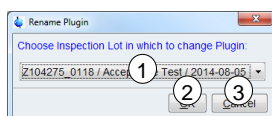
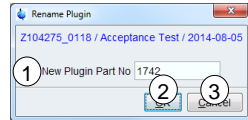
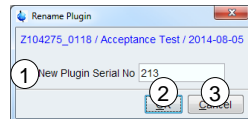

Figure 5-17: Rename Plugin – choose Inspection Lot
Figure 5-18: Rename Plugin – rename Part No
Figure 5-19: Rename Plugin – rename Serial No
- (1) Select the Inspection Lot including the plugin to rename from the list (Figure 5-17 (1)) of available Inspection Lots with plugins.
- (2) Click **OK** (Figure 5-17 (2)) to continue to rename the plugin. The subsequent dialog shown in Figure 5-18 opens.
- (3) Click **Cancel** (Figure 5-17 (3)) to abort renaming a plugin.
- (1) **New Plugin Part No**
Enter the **New Plugin Part No** (Figure 5-18 (1)) (see chapter 2.2, permitted characters). The old Part No is suggested as a default.
- (2) Click **OK** (Figure 5-18 (2)) to continue to rename the plugin. The subsequent dialog shown in Figure 5-19 opens.
- (3) Click **Cancel** (Figure 5-18 (3)) to abort renaming a plugin.
- (1) **New Plugin Serial No**
Enter the **New Plugin Serial No** (Figure 5-19 (1)) (see chapter 2.2, permitted characters). The old Serial No is suggested as a default.
- (2) Click **OK** (Figure 5-19 (2)) to finish renaming the plugin.
- (3) Click **Cancel** (Figure 5-19 (3)) to abort renaming a plugin.